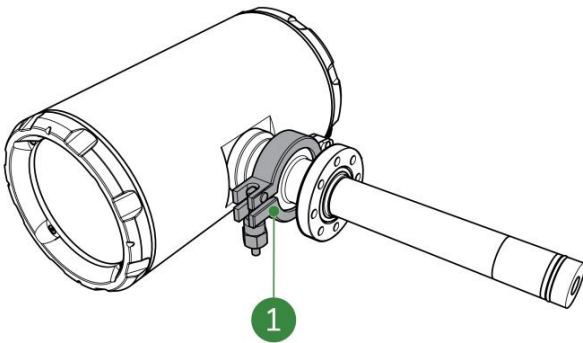

Figure 8-2: Tri-clamp
Check if the tri-clamp (Figure 8-2, pos. 1) is: